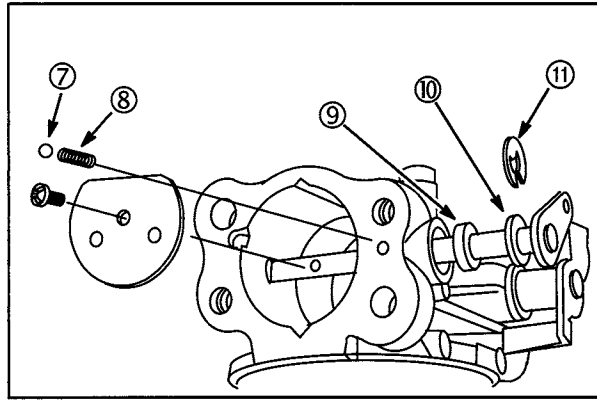

**Fig. 34**
4. Assemble new throttle shaft seal (4) with sealing lip out, **Fig. 34**.
5. Install throttle shaft with collar (3).
6. Install washer (5) and snap ring (6).